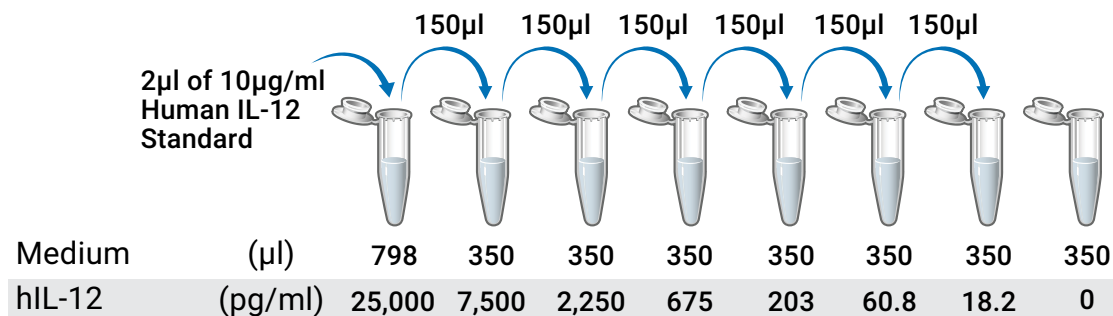

Figure 3. Human IL-12 dilution series.
3. Prepare an initial concentration of 25,000pg/ml human IL-12 by diluting Human IL-12 Standard (10µg/ml) 1:400 in prewarmed cell culture medium. For example, prepare 800µl of 25,000pg/ml human IL-12 by adding 2µl of the Human IL-12 Standard stock to 798µl of culture medium (see Figure 3).
3. Prepare an initial concentration of 25,000pg/ml human IL-12 by diluting the Human IL-12 Standard (10µg/ml) 1:400 in prewarmed cell culture medium. For example, prepare 800µl of 25,000pg/ml human IL-12 by adding 2µl of the Human IL-12 Standard stock to 798µl of culture medium (Figure 3).